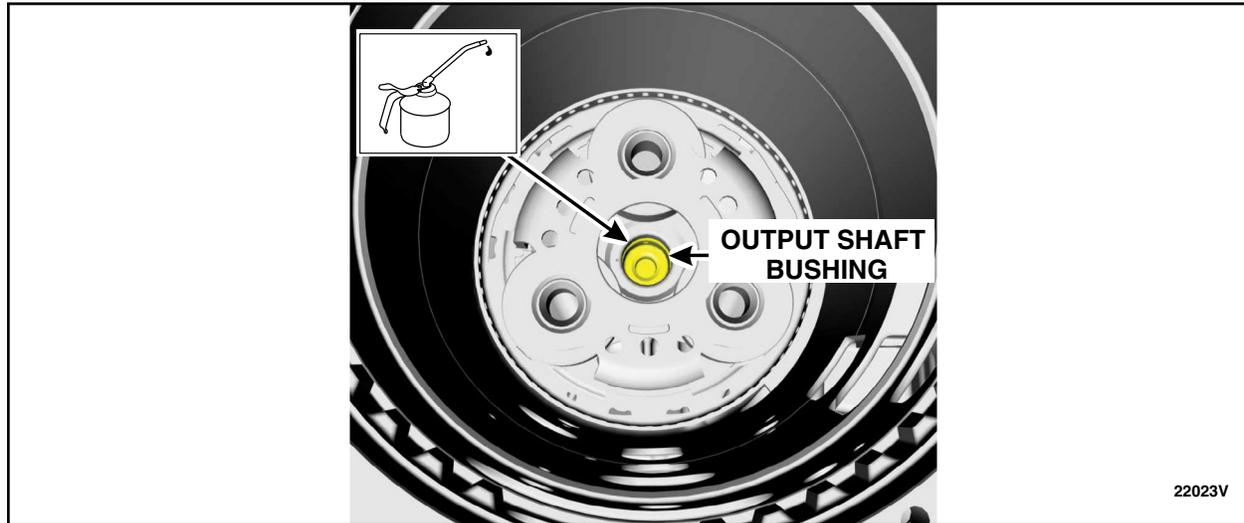

FIGURE 31
35. Lubricate the output shaft bushing with petroleum jelly. See Figure 31.